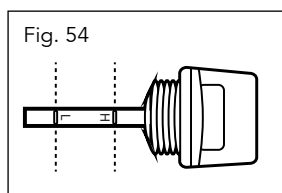

Fig. 54
3. Remove the dipstick and ensure the oil lays between the min and max marks (fig. 54).